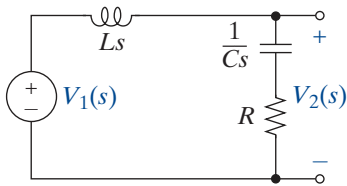

FIGURE P11-4
- 11-4 Find the driving point impedance seen by the voltage source in Figure P11-4 and the voltage transfer function $T_V(s) = V_2(s)/V_1(s)$.